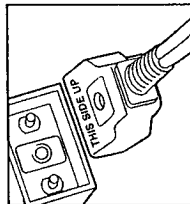

Figure 1
- Attach magnetic end of Sure Release power cord assembly directly to the fryer. **This should be done prior to plugging the cord into the wall outlet.** The magnetic end of the cord is designed only to go on one way. Be sure the side stating "THIS SIDE UP" is facing up. (See Figure 1)
**CAUTION:** The Sure Release Power Cord is only for accidental disconnection and is not to be removed during normal operation. If the cord becomes disconnected, the user should immediately unplug the cord set from the wall outlet, then reconnect. (See Figure 1)